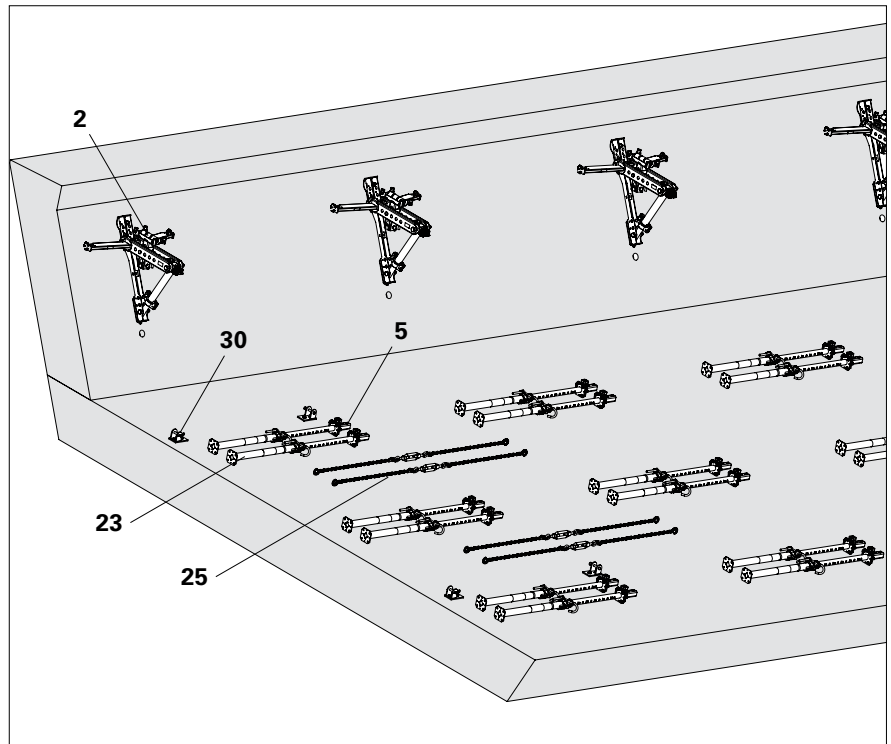

Fig. B5.01
1. Position all Roller Dropheads (2) in the concreting position and secure with locking pins, see section "A1 System-Specific Components – Roller Drophead VIL".
2. Mount Base Plate-3 (30) to the pre-cast bottom slab using Anchor Bolts PERI 14/20 x 130 (35).
3. Prepare tensioning chains (25).
4. Prepare slab props (23) with pre-assembled Cross Swivel Head (5). (Fig. B5.01)